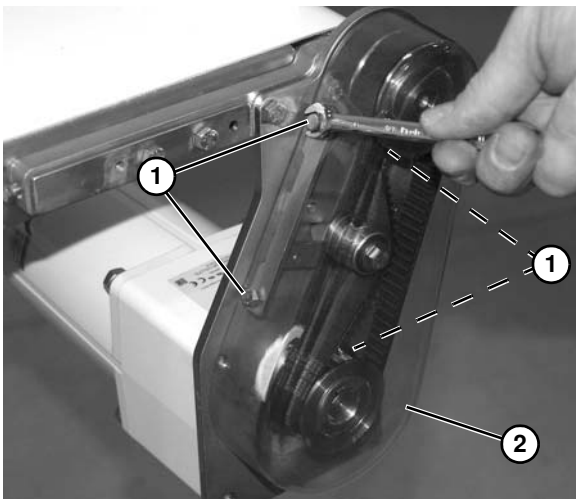

Figure 68
Figure 68 through Figure 71 shows tensioning procedure for a timing belt. Tensioning a timing chain is similar except as noted.
1. Loosen four (4) screws (Figure 68, item 1) and remove cover (Figure 68, item 2).